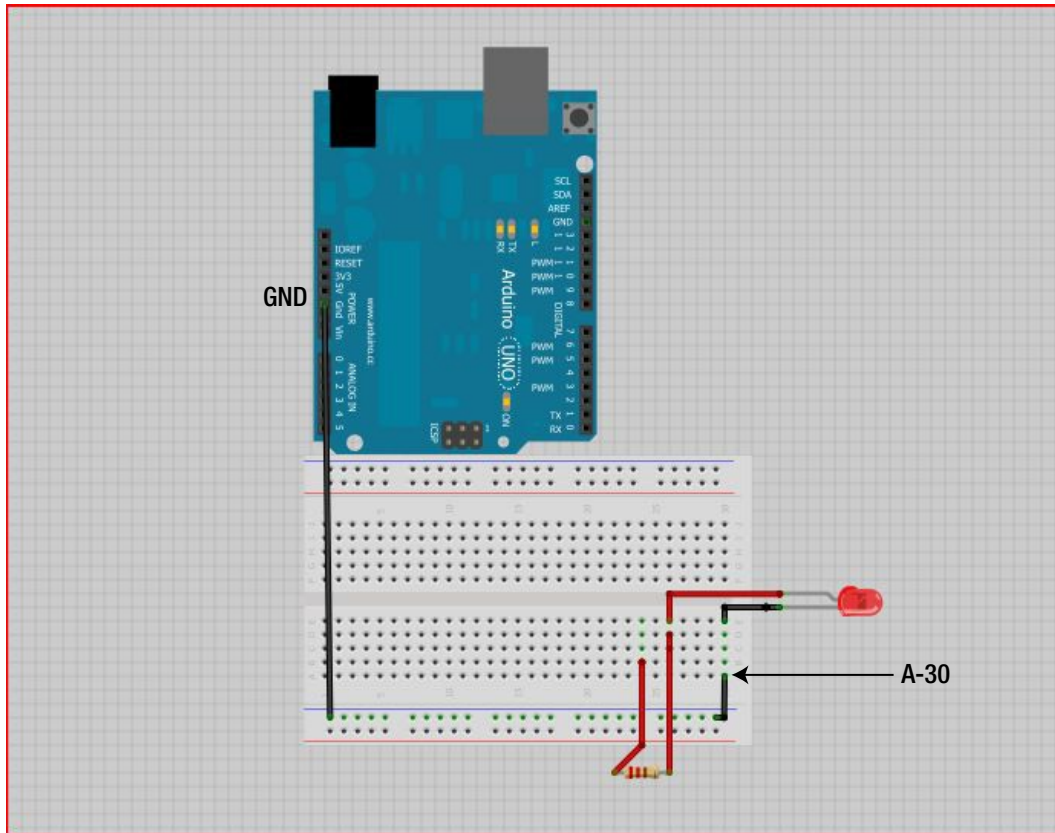

Figure 11-4. Attach ground from the Arduino to the solderless bread board and to the LED
3. Attach ground from the Arduino to the bottom ground strip of the solderless bread board. Then attach the ground strip of the solderless bread board to A-30 of the solderless bread board. Figure 11-4 illustrates this process.